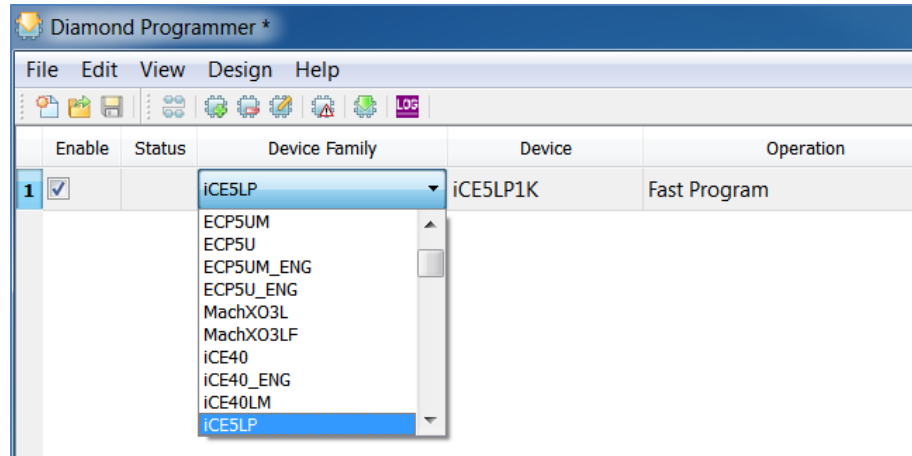

Figure 6.24. iCE40 Family – Device Family List
2. Manually select the device by choosing the following options as shown in Figure 6.24.